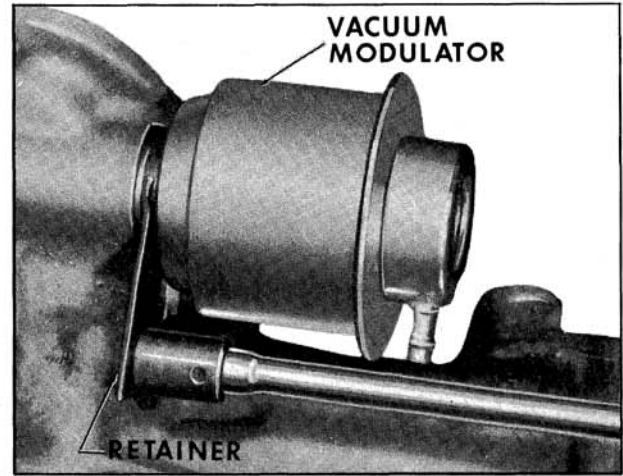

Fig. 6-546 Installing Vacuum Modulator Retainer
3. Install vacuum modulator retainer. Install retainer so tang points toward vacuum modulator. Torque bolts to 12 ft. lbs. (Fig. 6-546)